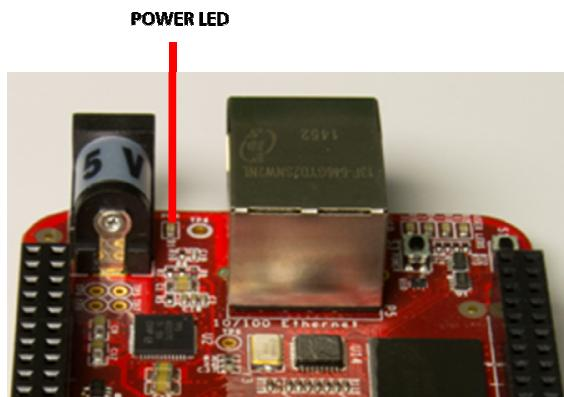

Figure 4      Board Power LED
3. The board will power on and the power LED will be on as shown in **Figure 4** below.